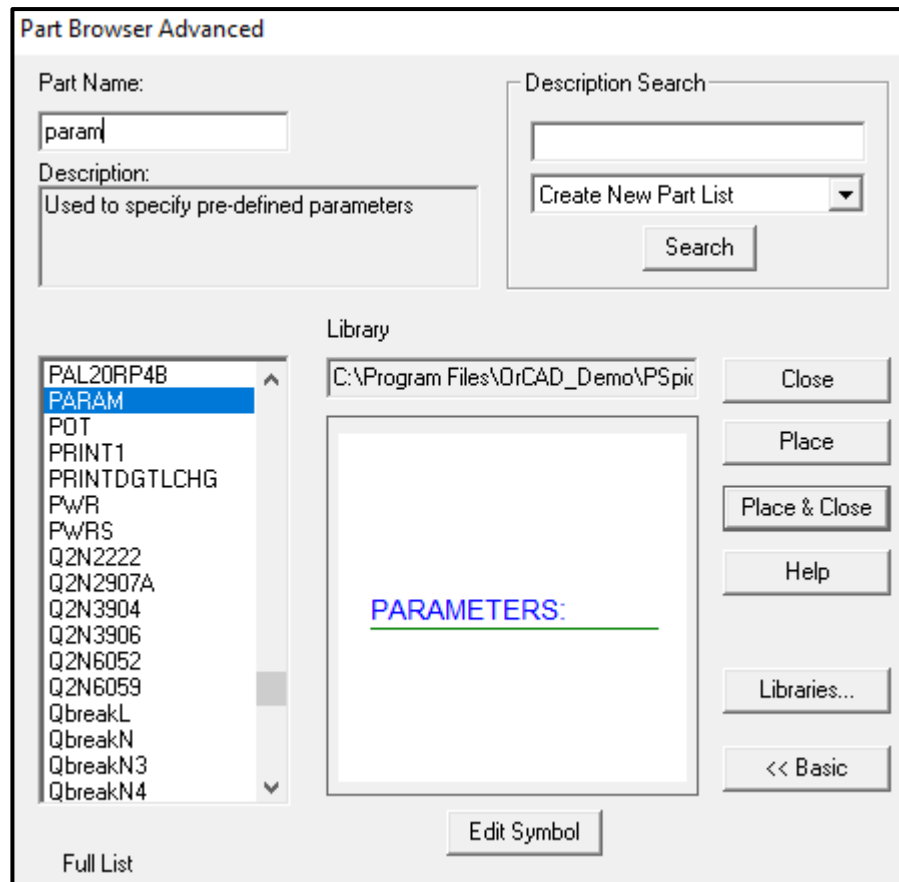

Figure.27
- To perform a DC sweep for a resistor in the same circuit, you need to add “param” part, go to “get new part” and search for “param”, as shown in figure.27.